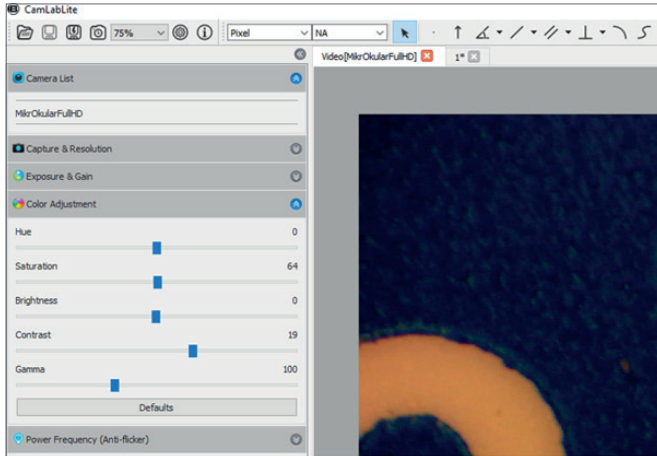

Figure 4: Adjustable controls for color matching.
**"Color Adjustment"** is the fourth menu item and allows manual modification of the captured live image. Here, the hue, saturation, brightness, contrast and gamma settings can be changed by moving the sliders (Fig. 4).